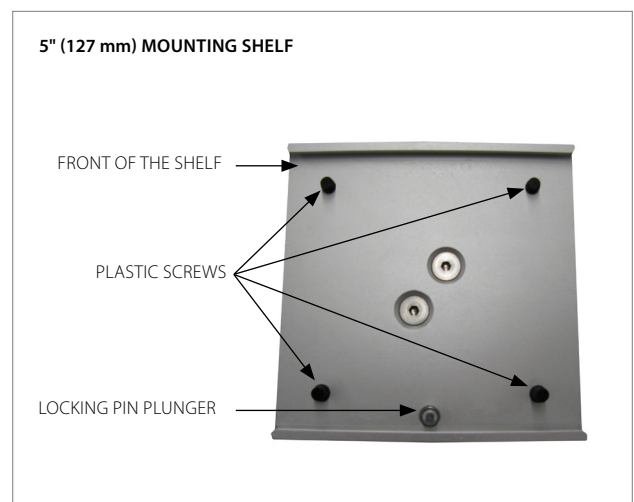

Figure 3
3. Release the **LOCKING PIN** and tighten the **PLASTIC SCREWS** by hand (Figure 3).